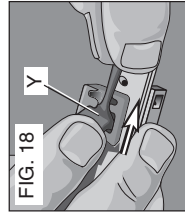
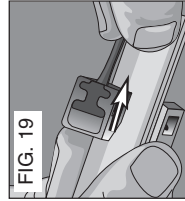

FIG. 18
FIG. 19
1. Align one of the rubber tabs (Y) from the new return cord assembly with the corresponding slot in the driver (Fig. 18).
2. With your finger, push and bend the rubber tab around corner (Fig. 18) while pulling the rubber cord until tab is firmly in place (Fig. 19).